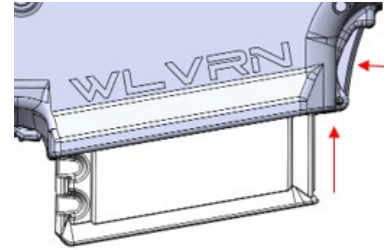

Figure 40: Installing 5.56 Conversion Block
2. Press and hold the magazine release. (Figure 40)
3. Insert the magazine spacer into the magazine well in the stock panel from the bottom until it snaps into position. (Figure 40)